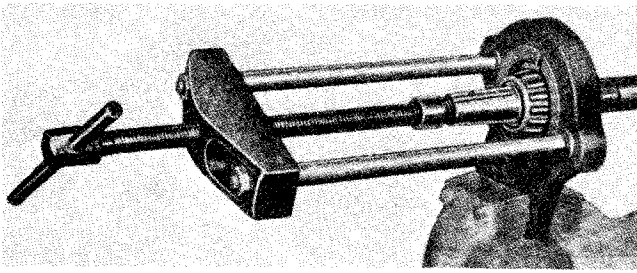

Fig. 5 Removing hub bearing inner ring.
- (v) Withdraw the axle shaft and inner bearing ring. After first removing the driving key, the bearing inner ring is then removed by using the extractor, as shown in Fig. 5.